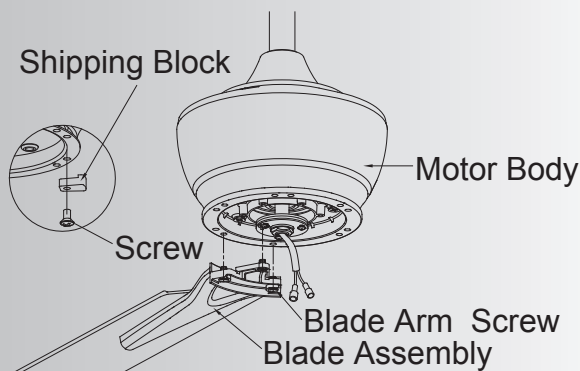

Fig. 18
Step 2. Remove and discard the three stabilizers tabs and screws. Fasten blade assembly to the holes located on the bottom of the flywheel. Tighten the two "pre-installed" motor screws in the blade arm. Repeat steps for the remaining blades assemblies. (Fig. 18)